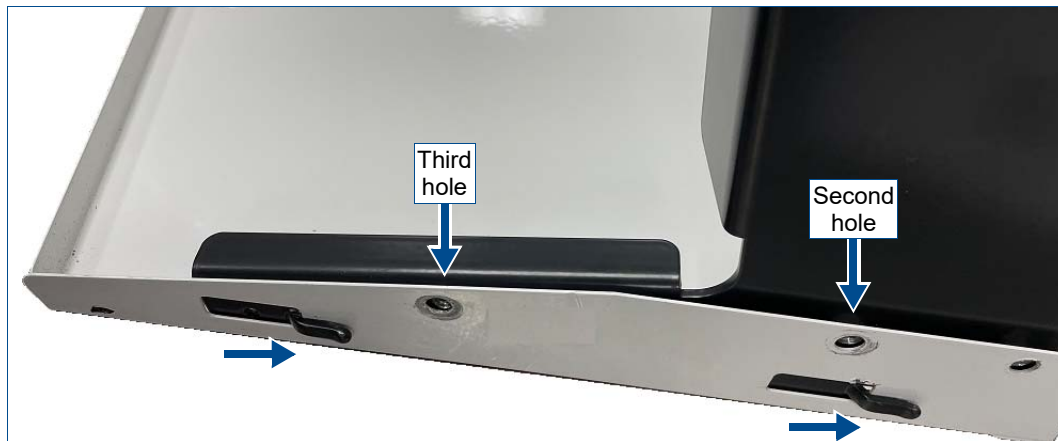

Figure G-3 Seat support bracket tabs in top panel
3. From the inside of the panel, insert the retaining tabs into the slots, then push the bracket towards the top of the panel to seat the tabs in the slots. See Figure G-3.
4. From the outside of the panel, install two screws (item 4) in the second and third holes from the top to secure the panel to the bracket. See Figure G-3.